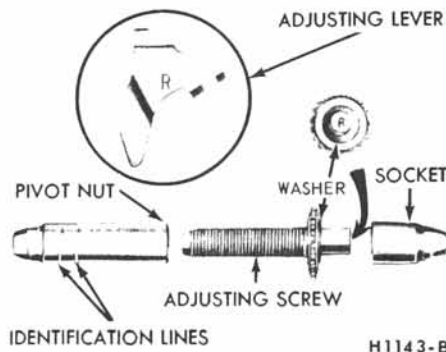

FIG. 11—Adjusting Screw and Lever Identification
Interchanging the brake shoe adjusting screw assemblies from one side of the car to the other would cause the brake shoes to retract rather than expand each time the automatic adjusting mechanism operated. To prevent installation on the wrong side of the car, the socket end of the adjusting screw is stamped with an R or L (Fig. 11). The adjust-
11. Hook the cable hook into the hole in the adjusting lever. The adjusting levers are stamped with an R or L to indicate their installation on a right or left brake assembly (Fig. 11).